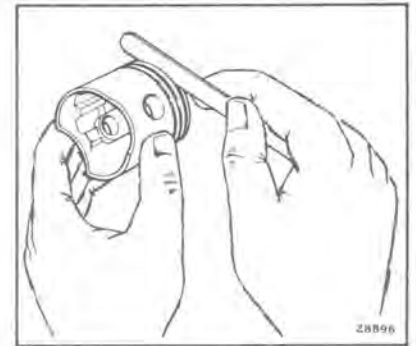

Figure 9-17
- d. Check each ring in its respective ring groove for tightness or binding by rolling the ring around the piston groove (see Figure 9-16). Check for groove side clearance with feeler gage (see Figure 9-17) (see Section 2, Specifications).